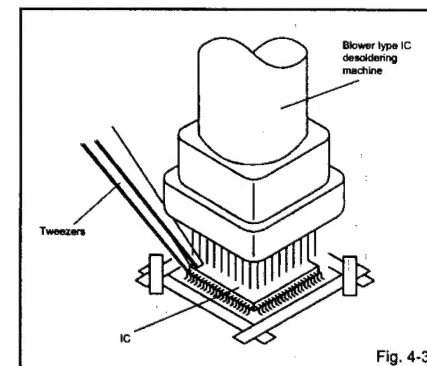

Fig. 4-3
- When IC starts moving back and forth easily after desoldering completely, pick up the corner of the IC using a tweezers and remove the IC by moving with the IC desoldering machine. (Refer to Fig. 4-3.)